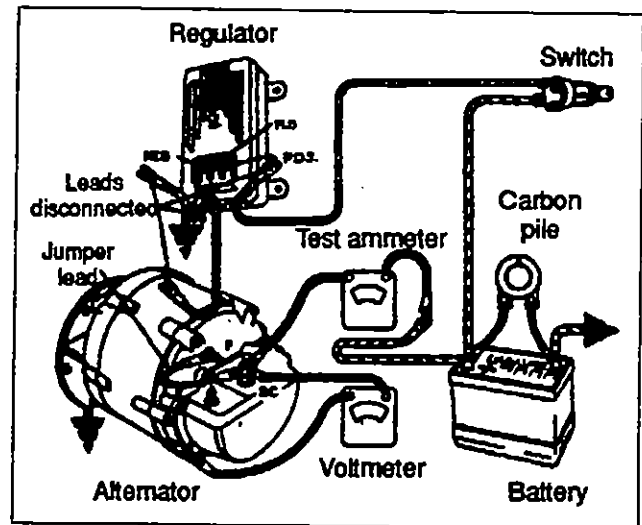

Figure 34
6. See figure 34 for wiring connections.